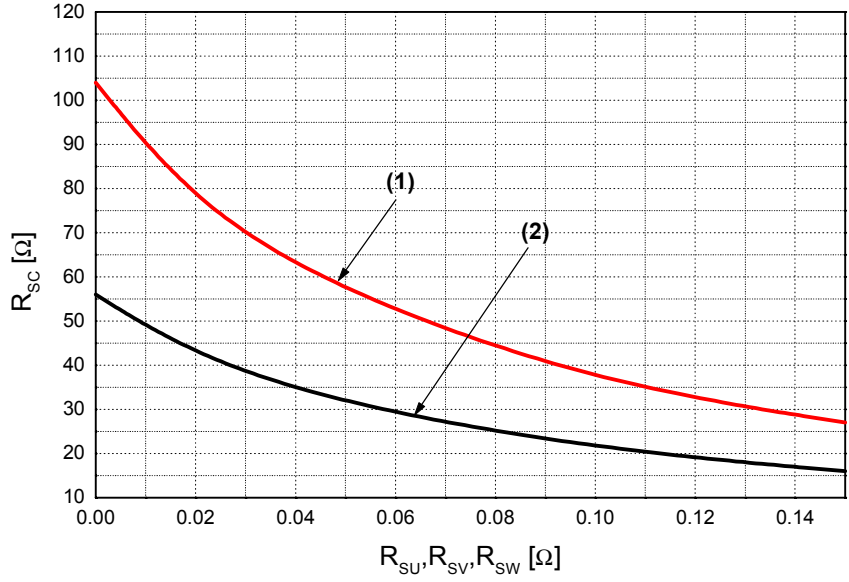

Fig. 6. R_{SC} Variation by change of Shunt Resistors (R_{SU}, R_{SV}, R_{SW}) for Short-Circuit Protection
- Short-circuit current protection is functioning only at the low-sides. It would be recommended that the value of the external sensing resistor (R_{SC}) should be selected around 56 Ω in order to make the SC trip-level of about 15A at the shunt resistors (R_{SU}, R_{SV}, R_{SW}) of 0 Ω . For the detailed information about the relationship between the external sensing resistor (R_{SC}) and the shunt resistors (R_{SU}, R_{SV}, R_{SW}), please see Fig. 6.